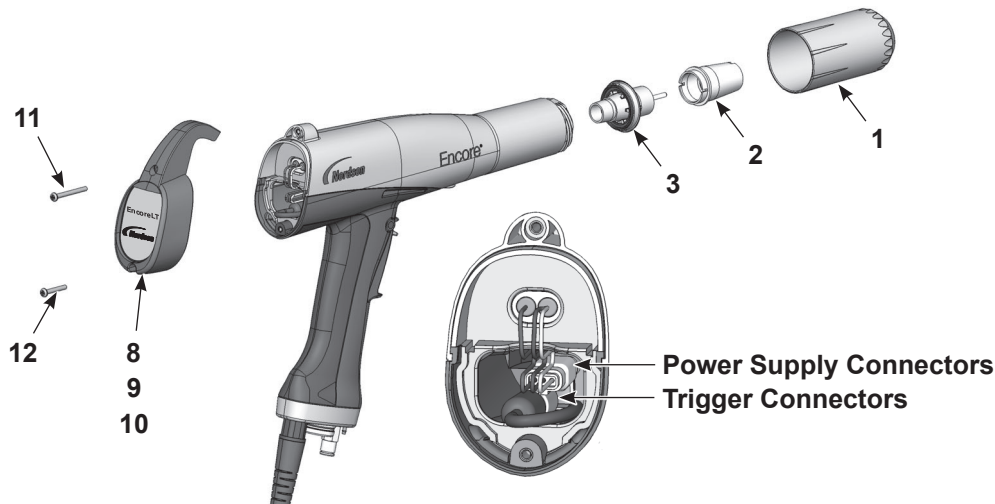
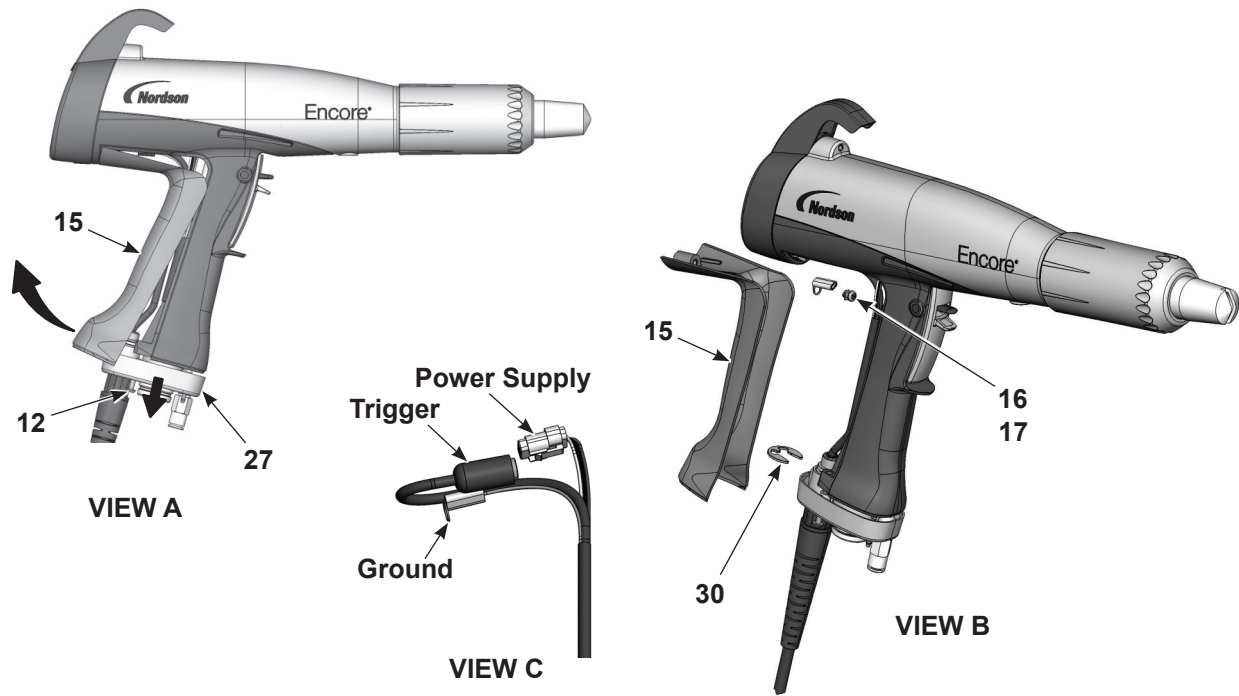

Figure 12 Gun Disassembly
Figure 16 Cable Replacement
1. See Figure 12. Remove the nozzle nut (1), nozzle (2), and electrode assembly (3).
2. Remove the screws (11, 12) and hook (10), cover (8), and housing (9).
4. See Figure 12. Install the cover (8), housing (9), and hook (10) as shown.
5. Install the electrode assembly (3) into the front of the gun body. Make sure the wire electrode is not bent or broken.
6. Install the nozzle (2) on the electrode assembly, making sure the keys in the electrode assembly slide into the slots on the nozzle.
7. Install the nozzle nut (1) over the nozzle and rotate clockwise to secure.
2. See Figure 12. Remove the bottom screw (12) from the housing (9).
3. See Figure 16, View A. Loosen the two M3 x 20 screws (12) securing the handle base (27) to the handle.
4. Pull the base away from the handle enough to free the bottom edge of the ground pad (15) from the base.
6. See Figure 16, View B. Remove the M3 x 6 screw, lock washer (16, 17), and ground terminal from the ground pad.
7. Remove the E-ring (30) from the cable.
8. See Figure 16, View C. Pull the cable connectors out of the handle. Disconnect the power supply harness from the gun cable by inserting a small flat-bladed screw driver in the slot of the power supply harness connector to release the catch.
1. See Figure 16. Feed a new cable through the handle base (27), then install the E-ring (30) on the cable to hold it in place.
3. Connect the cable terminal to the ground pad (15) with the M3 x 6 screw and lock washer (16, 17).
5. Hook the top of the ground pad (15) into the gun body, then rotate it into position on the handle.
6. Push the handle base (27) up against the handle and ground pad, and tighten securely the two M3 x 20 screws (12) in the base.
7. See Figure 12. Install the bottom M3 x 20 screw (12) in the housing (9) and tighten it securely.
1. See Figure 16. Remove the ground pad as described in *Cable Removal steps 1–5* . You do not have to disconnect the ground cable from the ground pad.